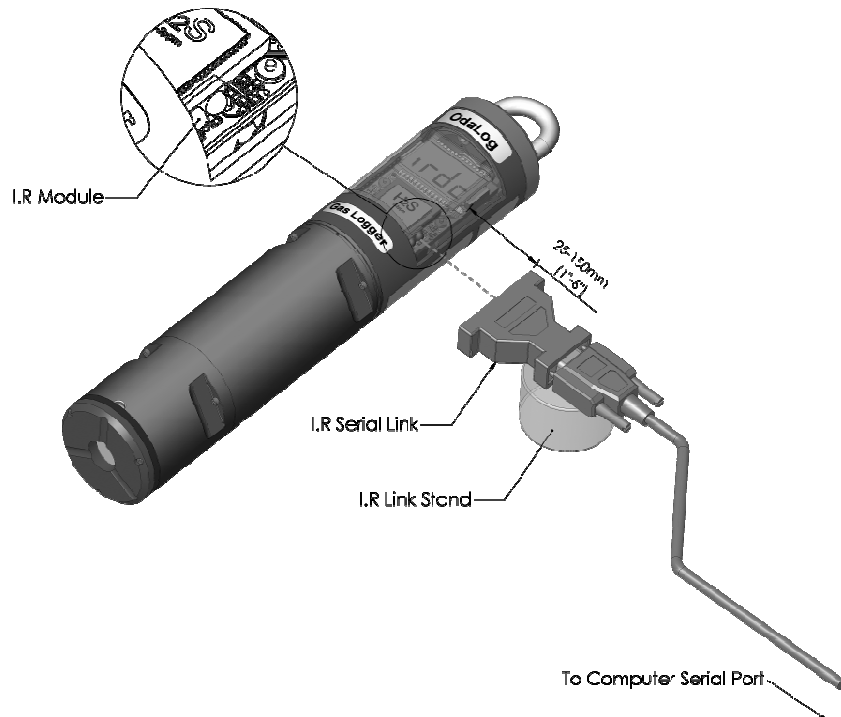

Figure 6: I.R Communications Set-Up
- Position I.R device between 25-150mm (1-6”) from the OdaLog Instrument, ensuring line-of-sight between I.R device and the I.R module on the OdaLog, as shown in Figure 6.